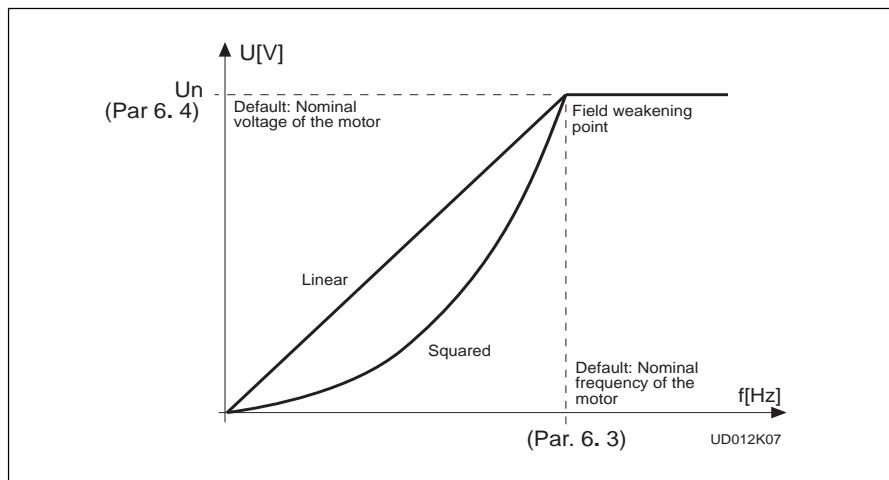

Figure 5-2 Linear and squared U/f curves.
- Linear: The voltage of the motor changes linearly with the frequency in the constant flux area from 0 Hz to the field weakening point (par. 6. 3) where the nominal voltage is also supplied to the motor. See figure 5-2. Linear U/f ratio should be used in constant torque applications.
- Squared: 1 The voltage of the motor changes following a squared curve form with the frequency in the area from 0 Hz to the field weakening point (par. 6. 3) where the nominal voltage is also supplied to the motor. See figure 5-2.